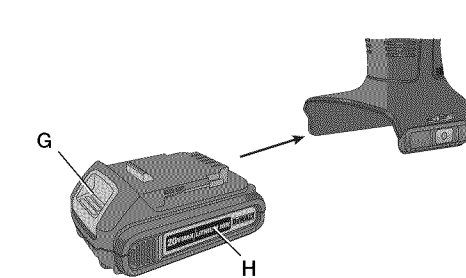

FIG. 3
### Charging Procedure (Fig. 3)
2. Insert the battery pack (H) into the charger, as shown in Figure 3, making sure the pack is fully seated in charger. The red (charging) light will blink continuously, indicating that the charging process has started.